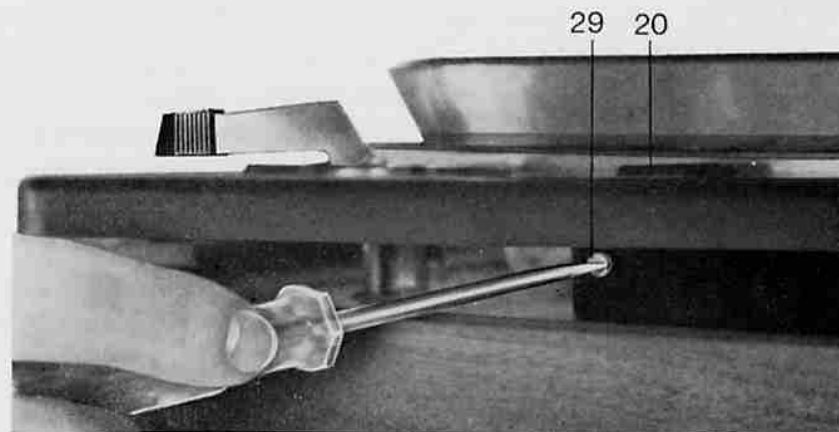

Fig. 19
Precise adjustment is not necessary, see Par. 3.2. The window (Fig. 11-20) is continuously illuminated while the unit is in operation. If the neon lamp fails to glow, its operating point must be readjusted in accordance with the instructions in 5.2 (Fig. 19). When the exact turntable speed of $33\frac{1}{3}$ RPM has been set, the 78 RPM speed will automatically be correct.
Use long "Magic Wand" Spindle (7) and insert the pointed end in the hollow center (7A) of the turntable (Fig. 12). Automatic play is possible for either 7", 10" or 12" records. Up to 10 records of the same size can be played in sequence. For automatic play of 7" records with a large center hole, use accessory automatic spindle SA-383 (Fig. 19). To start